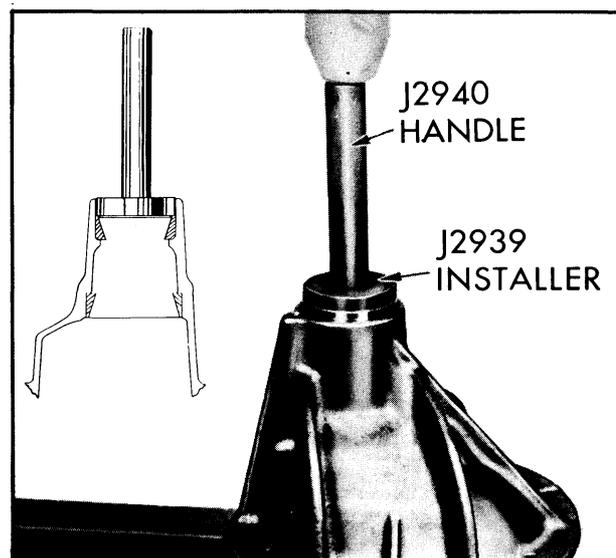

Fig. 6-26 Installing Front Pinion Outer Race
3. Press outer race of front pinion bearing firmly against shoulder in the carrier. (See Fig. 6-26)